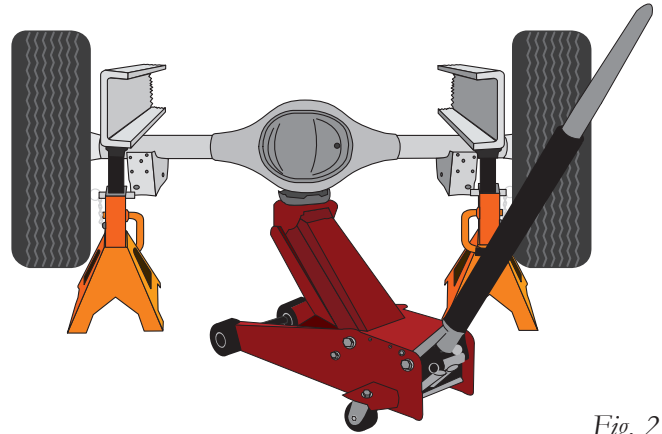

Fig. 2
1. Raise the vehicle and support it, using safety stands or equivalent, so that the axle can be safely lowered away from the frame. This needs to be done in order for the air spring assembly to be put into position between the axle and frame (Fig. 2).